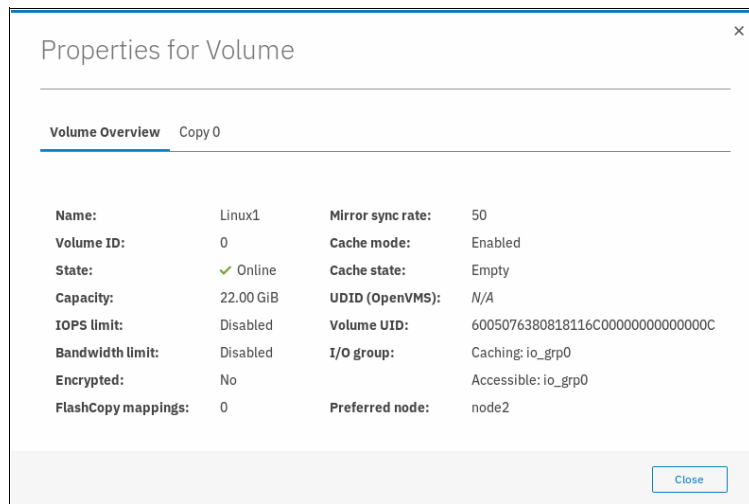

Figure 8-52 Volume details overview
1. Select **Properties** from the Actions menu. The full list of volume properties is shown (see Figure 8-52).